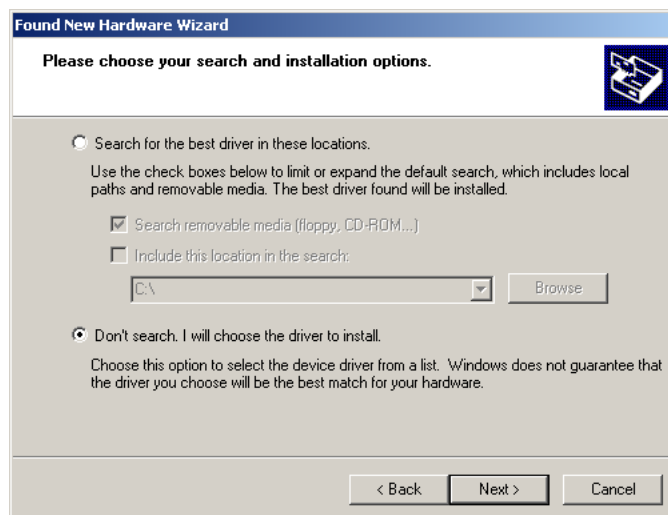

Figure 7. Found New Hardware Wizard – Installation Options Window
2. Select **Install from a list or specific location (Advanced)** and click **Next**. The Found New Hardware Wizard – Installation Options window opens (see Figure 7).